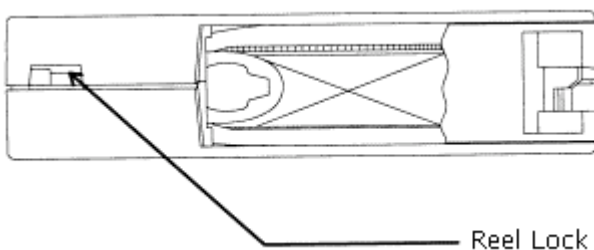

Figure 1: Location of One of the Two Reel Lock Tabs on the DLTtape
4. Hold the tape cartridge so that the end of the cartridge that is inserted into the DLTtape drive is facing you, as shown in Figure 1. You will see that there is a small opening on the left-hand side of the tape cartridge. Inside and near the center of this opening, you should see a small plastic tab. This is one of the reel locks. The reel locks can break if the cartridge is dropped. This may be the cause of any rattling sound you hear when you gently shake the tape cartridge. If this reel lock tab is not visible do not use the cartridge.